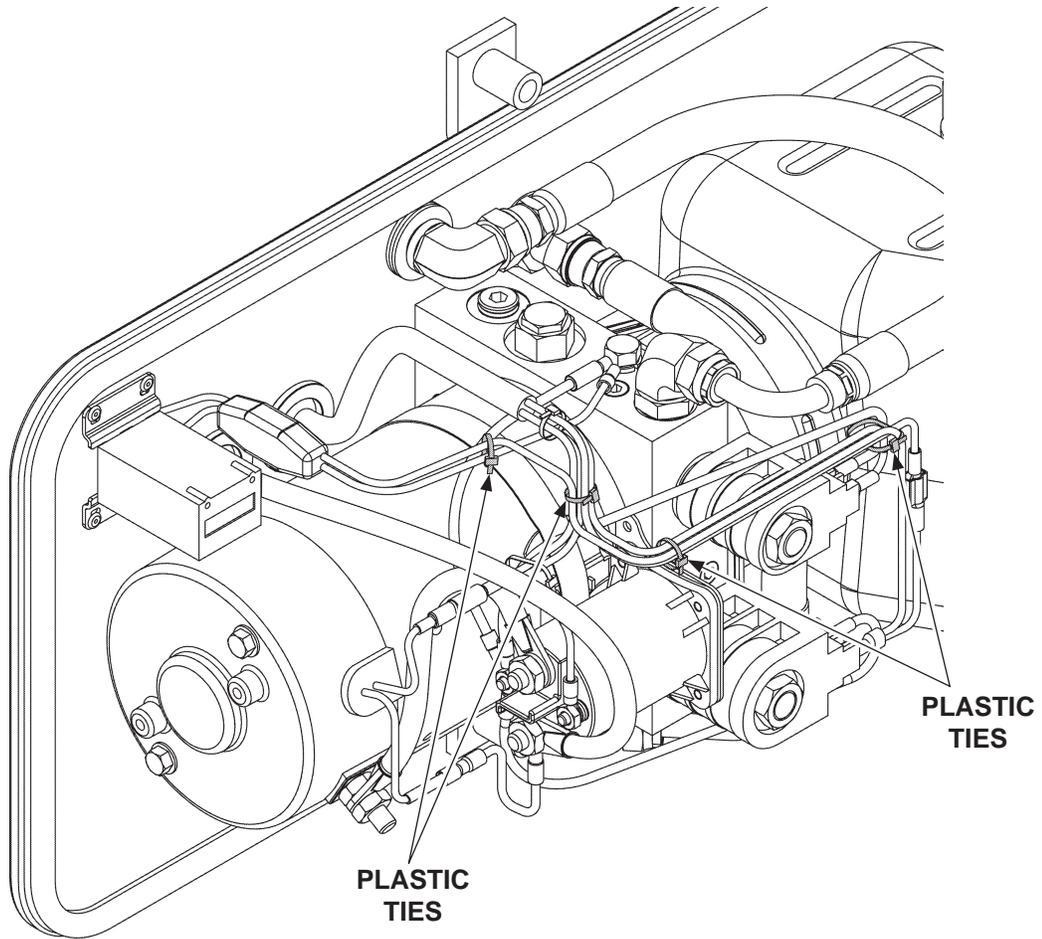

FIG. 5-1
7. Secure wiring with tie straps (Kit items) as shown in **FIG. 5-1**.